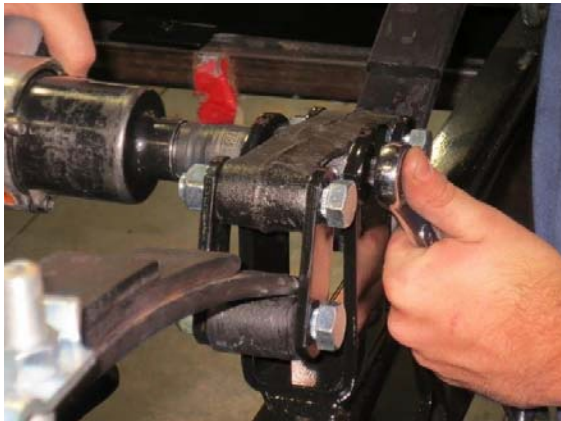

Figure 6. Loosening Axle Hex Nuts
9. Loosen **axle hex nuts** (P/N 29249) as shown in Figure 6.